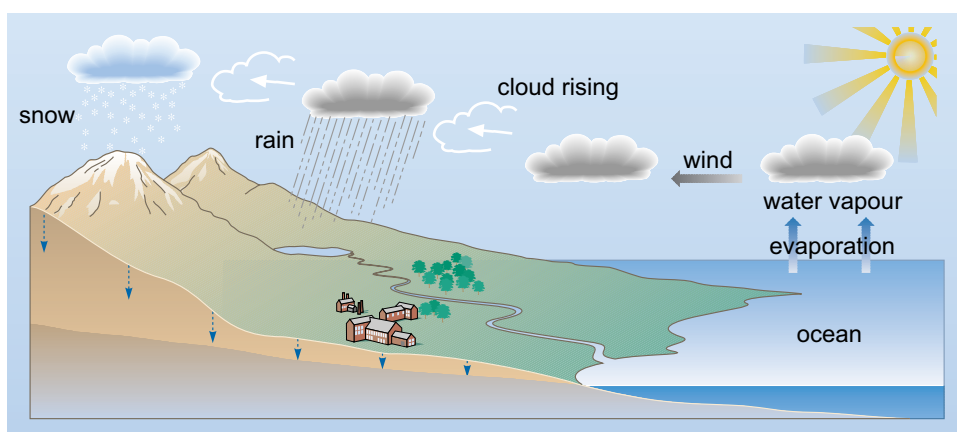

Figure 1 The water cycle.
Water moves around the Earth in the water cycle (Figure 1). Natural water on Earth is not completely pure as compounds may dissolve at several points in the cycle and this may lead to pollution if above accepted guidelines.
- What will the $[H^+(aq)]$ be in the water in Figure 1?